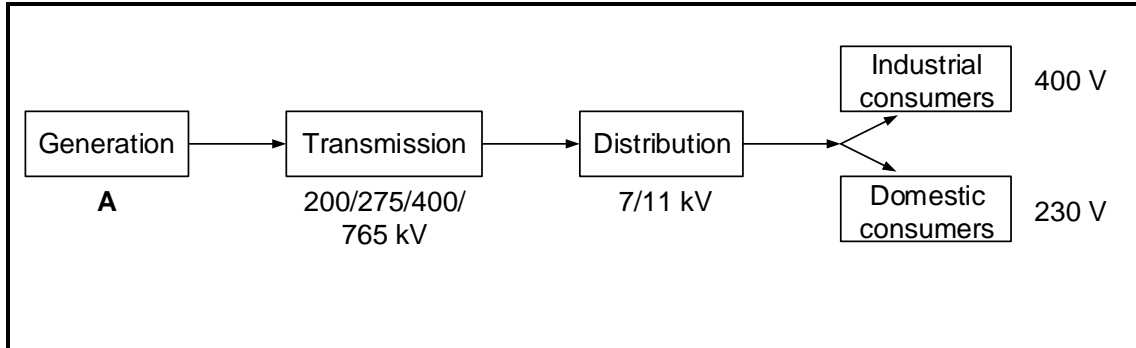

FIGURE 4.1: NATIONAL POWER GRID
4.1 FIGURE 4.1 below shows a block diagram of the national power grid in South Africa. Answer the questions that follow.